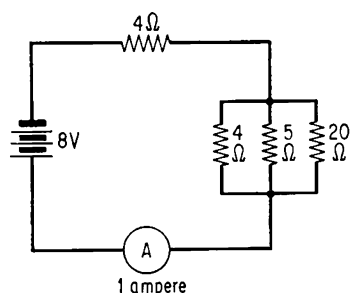

Fig. 88
41. An ammeter of negligible resistance reads 1 ampere in the circuit shown in Fig. 88. If the e.m.f. of the battery is 8 volts, what is its internal resistance?